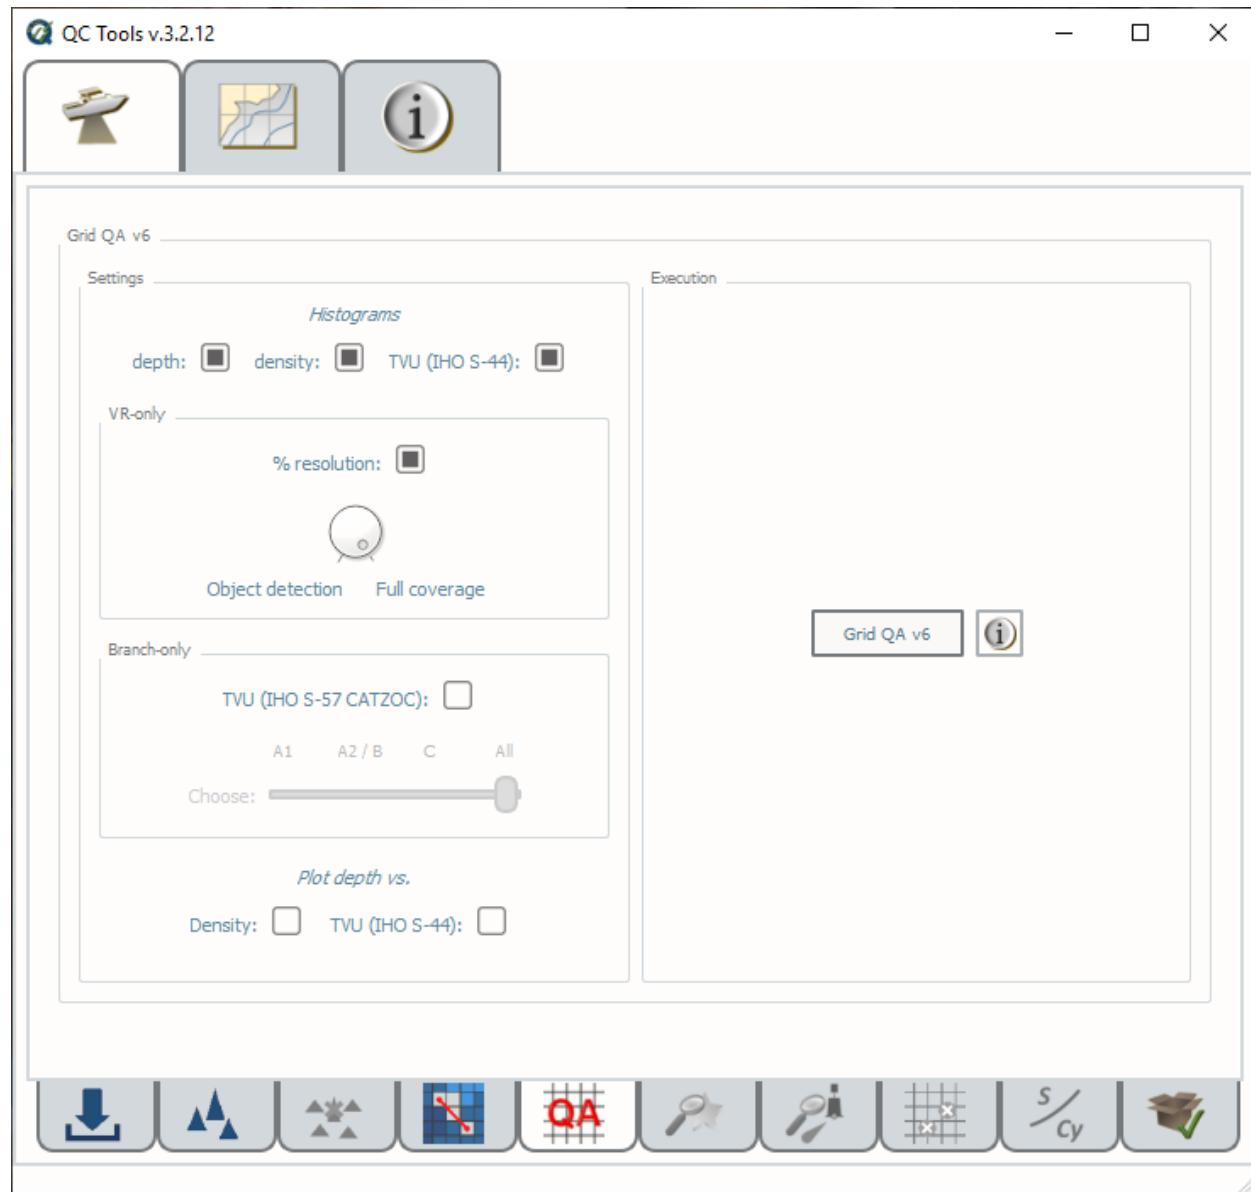

Fig. 2.25: The **Grid QA** tab.
- Select the **Grid QA** tab (Fig. 2.25) on the bottom of the QC Tools interface.